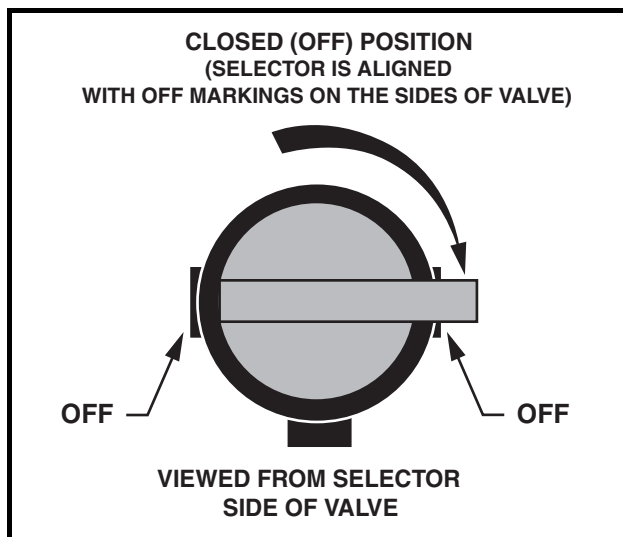

Figure 12 Fuel Shut-off Valve – Closed Position
**Gasoline vehicles only:** Turn the fuel shut-off valve to the closed (OFF) position when the vehicle is not in use (Figure 12, Page 31). **See also Figure 34 and Figure 35 on page 47.**
- Gasoline vehicles only: Turn fuel shut-off valve to the closed (OFF) position (Figure 12).
- Gasoline vehicles only: Turn fuel shut-off valve to the closed (OFF) position (Figure 12, Page 31).
- **Gasoline vehicles only: Turn fuel shut-off valve to the closed (OFF) position (Figure 12).**